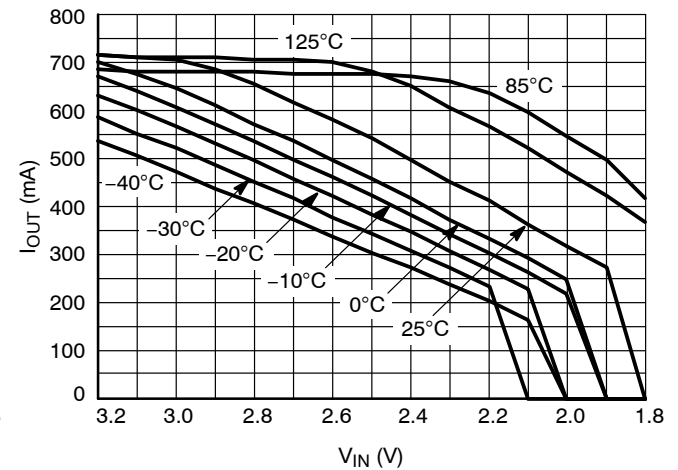

Figure 22. Output Current Capability for the 1.5 V Version
22. For output current capability for $T_A < 0$ °C, please refer to Figure 22.